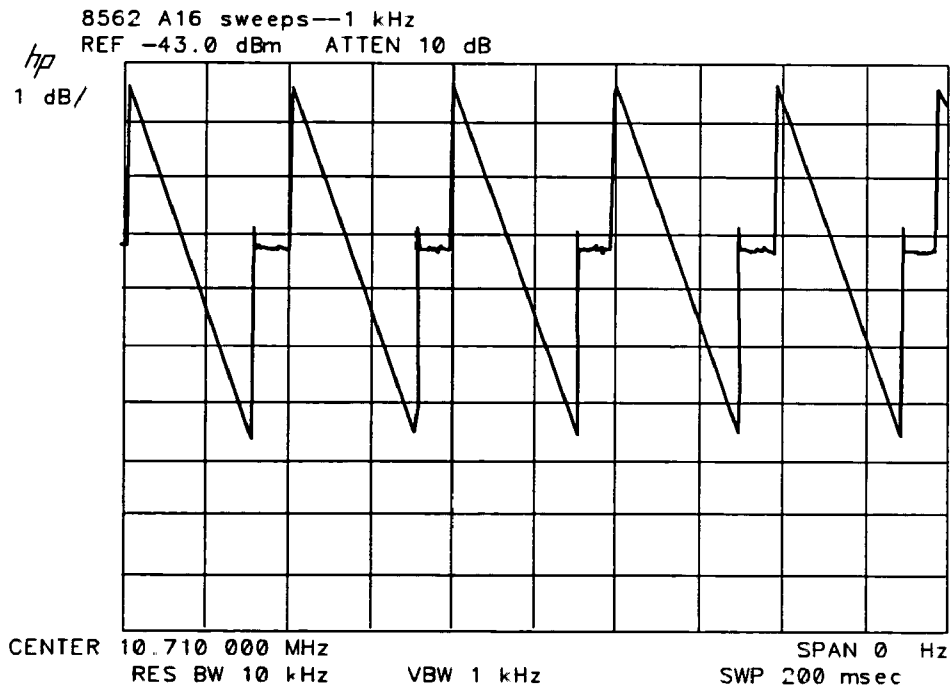

Figure 9-18. Output Waveform, 1 kHz RBW
13. Figure 9-18 illustrates normal operation. Severe failures (slope error >30%) and subtle 3 kHz Resolution Bandwidth errors (<30%) indicate a problem with A16U7, U11, and U12.